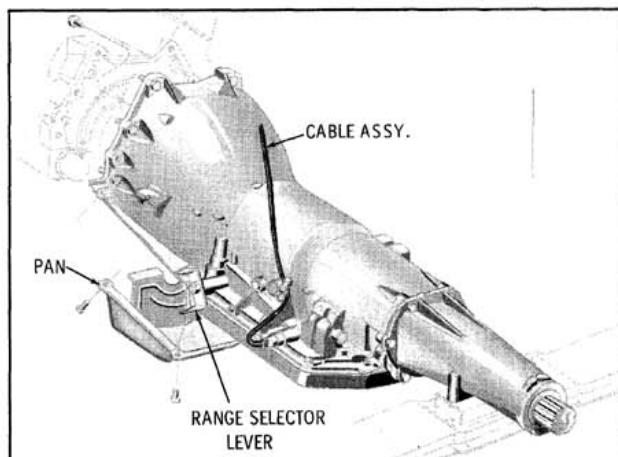

Fig. 6-24 Transmission Removal
13. Lower transmission and remove from car. (Fig. 6-24)